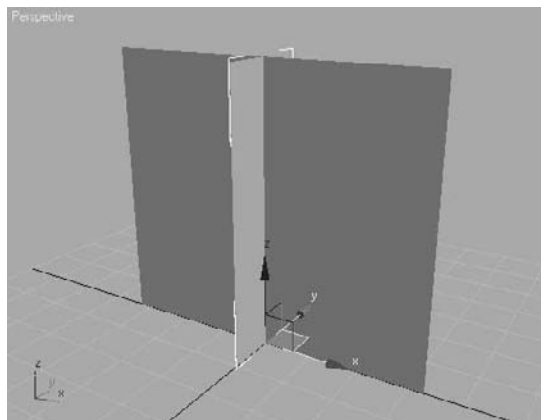

Figure 6.1
- Move this box to the origin as well. The Perspective viewport should look similar to Figure 6.1. You will use these crossing boxes to outline the shape of your alien model.